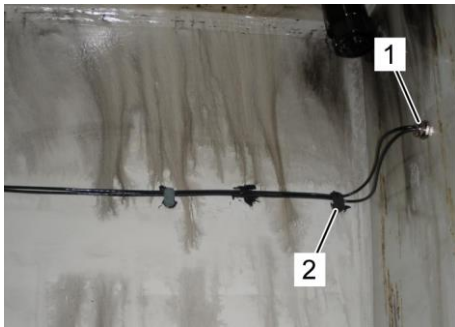
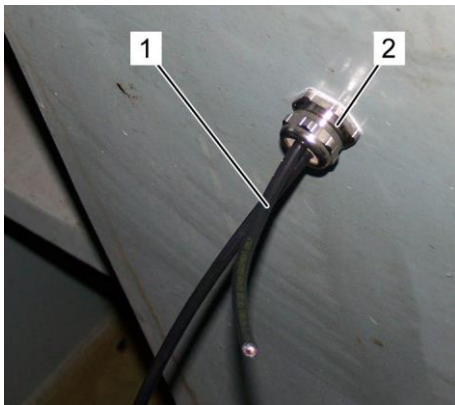

Fig. 56: Cable gland inside the engine
Fig.57: Cable gland outside the engine
4. Lead cables (Fig. 56/2) through cable glands (Fig. 56/1) from the inside (Fig. 56) to the outside (Fig.57) of the engine.